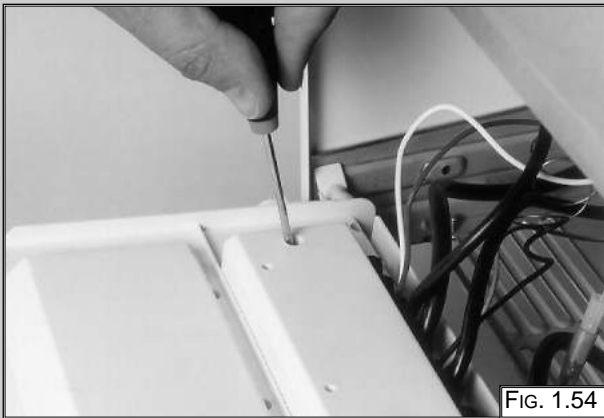

FIG. 1.54
1. Remove the inspection cover on the reverse of the control panel (FIG. 1.54);